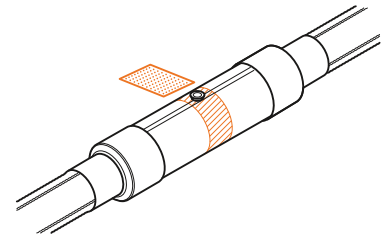

Fig. B11.1.15
15. Cut the dried foam from the sleeve with a knife. Lightly abrade the middle 150 mm section of Heat Shrink Sleeve, ensuring all of the pipe's circumference is prepared (Fig. B11.1.15). Warm up the prepared area using a gas burner.